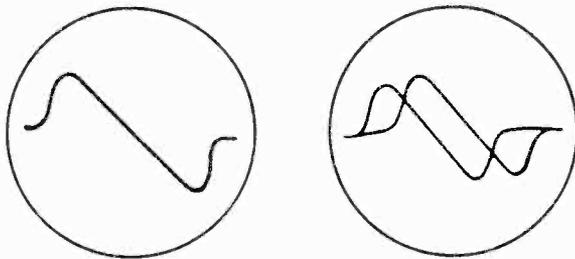

Fig. 6 - S Curves
4. Adjust signal generator frequency until "S" curve (Fig. 6) is centered on the